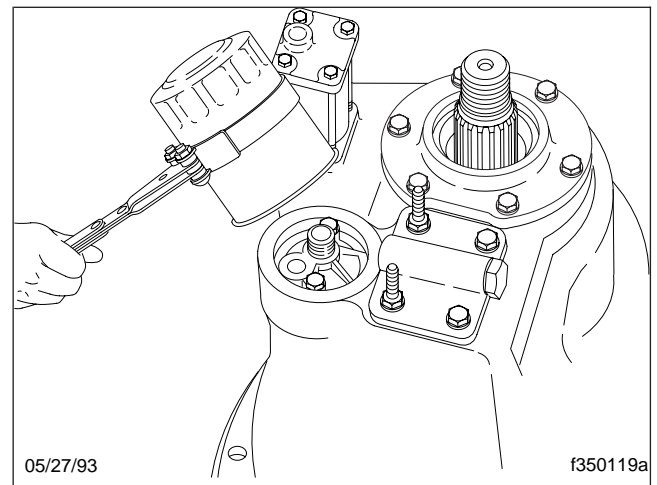

Fig. 9, Axle Oil Filter Removal
- 3.2 Remove the oil filter, using a suitable filter strap wrench. See Fig. 9. Discard the filter.